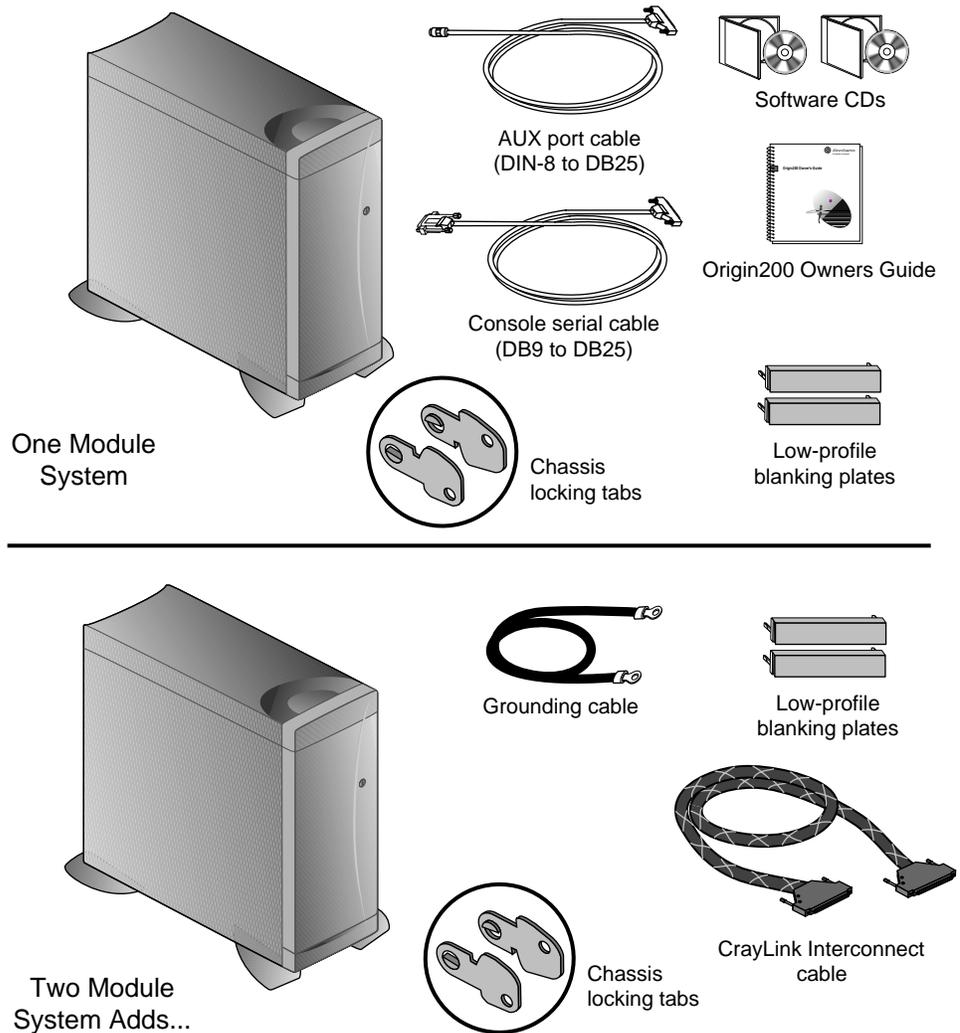
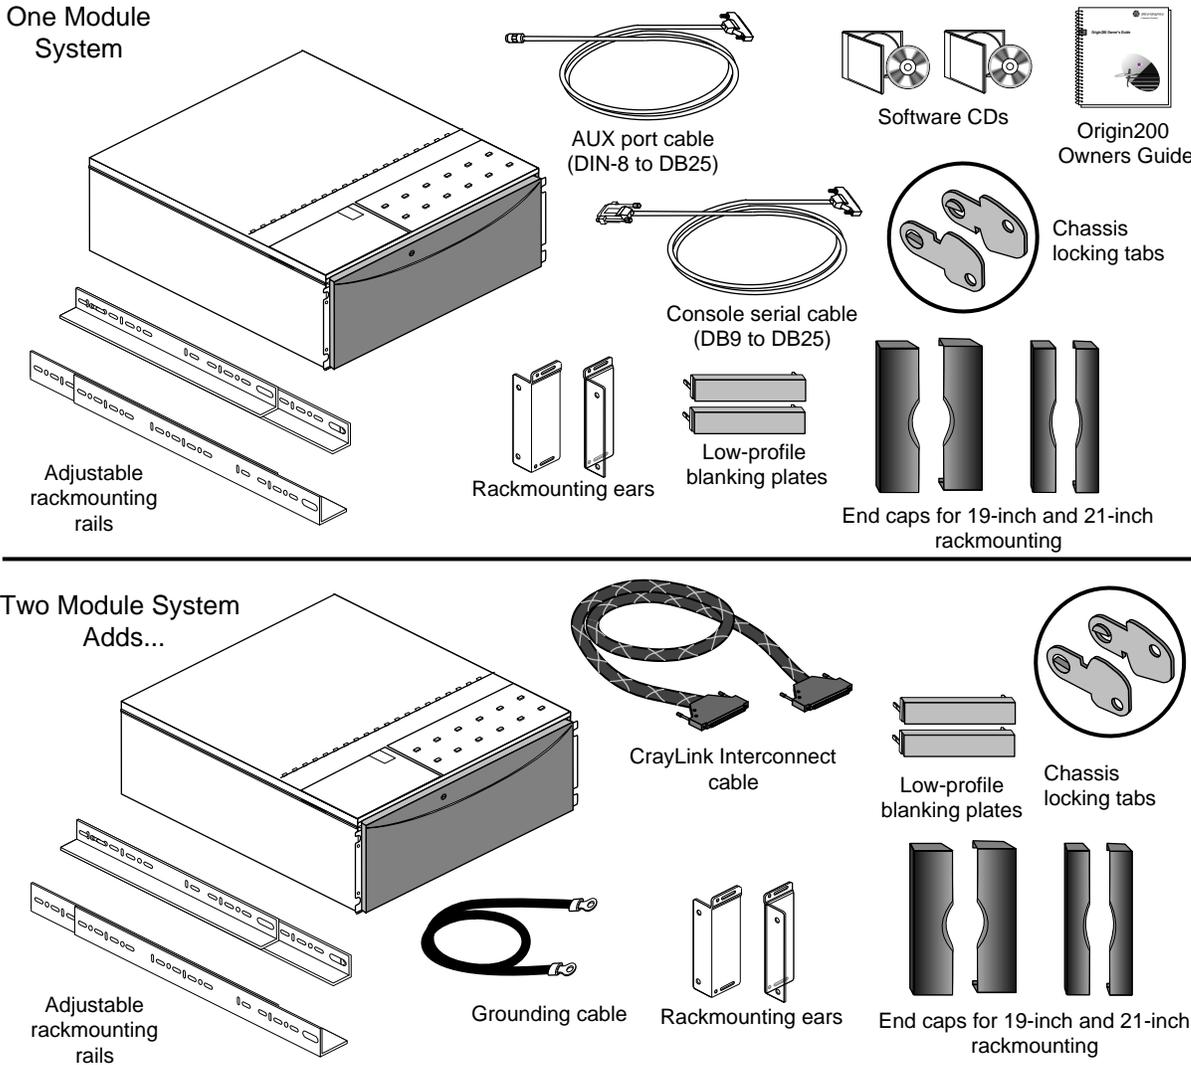

Figure 2-2 Basic Items Included With the Origin200 Server, Tower Configuration
Figure 2-3 Basic Items Included With the Origin200 Server, Rack-Mountable Configuration
Figure 2-2 shows the various items that are packed with a basic Origin200 server in a tower configuration. (Low-profile blanking plates are packed inside the peripheral carrier). Your shipment may include additional options.
Figure 2-3 shows the various items shipped with an Origin200 server in a rack-mountable configuration. (Low-profile blanking plates are packed inside the peripheral carrier).
2. Make sure you have all the parts. See Figure 2-2 and Figure 2-3.